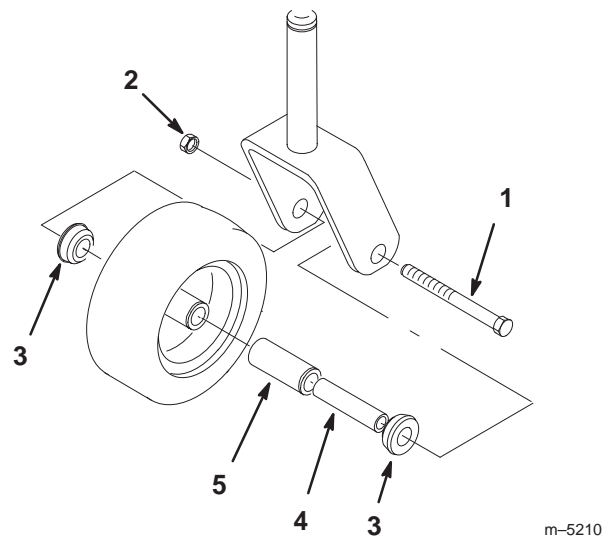

Figure 69
1. Remove the locknut and wheel bolt holding the caster wheel to the caster fork (Fig. 69).
2. Remove one bushing, then pull the spanner bushing and roller bearing out of the wheel hub (Fig. 69).
3. Remove the other bushing from the wheel hub and clean any grease and dirt from the wheel hub (Fig. 69).
4. Inspect the roller bearing, bushings, spanner bushing and inside of the wheel hub for wear. Replace any defective or worn parts (Fig. 69).
5. To assemble, place one bushing into the wheel hub. Grease the roller bearing and spanner bushing and slide them into the wheel hub. Place the second bushing into the wheel hub (Fig. 69).
6. Install the caster wheel into the caster fork and secure with the wheel bolt and locknut. Tighten the locknut until the spanner bushing bottoms against the inside of the caster forks (Fig. 69).